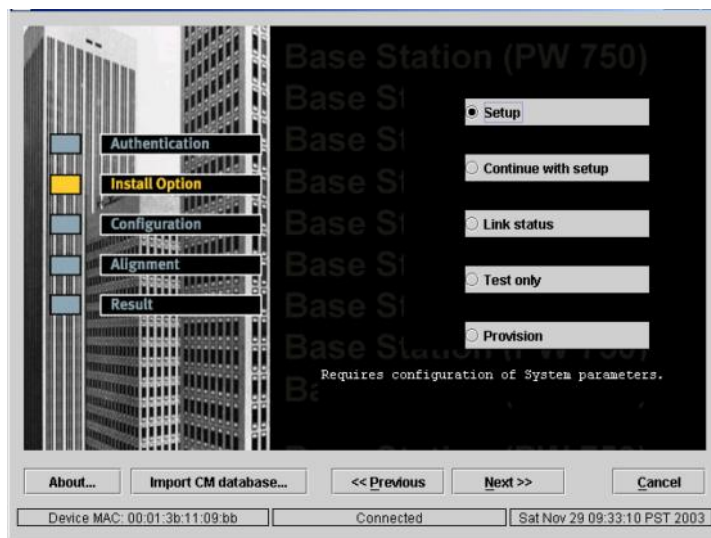

Figure 5-3 Install Option Window
5. The Installation Option Window will be displayed, as shown in Figure 5-3. This window presents five AIM modes: